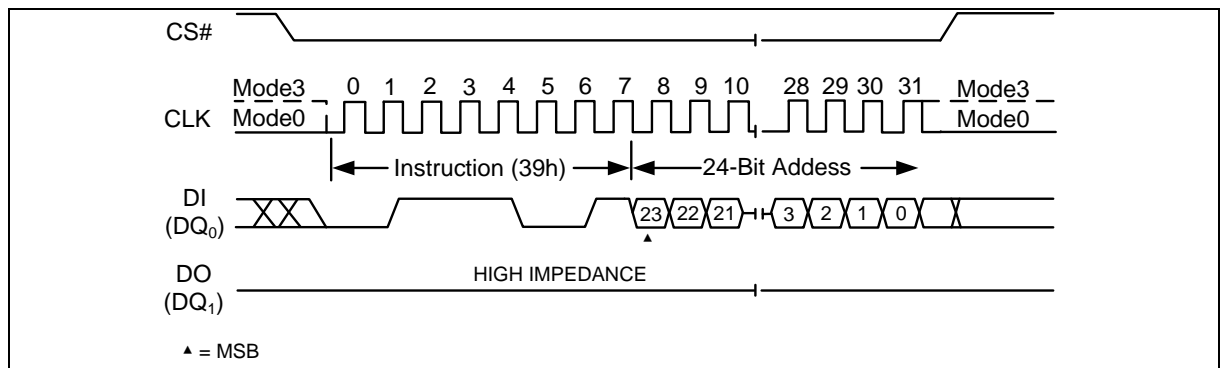

Figure 109 Individual Block/Sector Lock Instruction (SPI Mode)
To unlock a specific block or sector as illustrated in Figure 109, an Individual Block/Sector Lock command must be issued by driving CS# low, shifting the instruction code “39h” into the Data Input (DI) pin on the rising edge of CLK, followed by a 32/24-bit address and then driving CS# high.